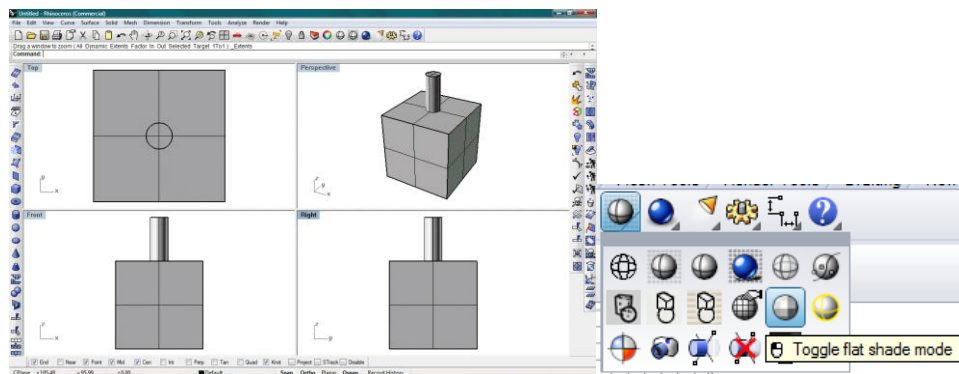

Figure 38: Box and cylinder shaded views.
2. Left-click on the button marked **Shaded Viewport** to see the shaded view of box and cylinder (Figure 38).